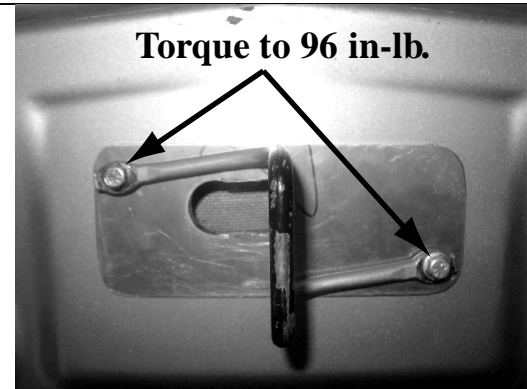

Figure 9
18. At the front of the underside of the hood, position the striker backing plate (06-1106-C13002) by aligning holes in plate with the corresponding holes in hood. The large hole provides clearance for the hood latch while the hood is in the closed position; if these holes do not align, the hood will not close properly. Correct orientation shown in **Figure 9**.